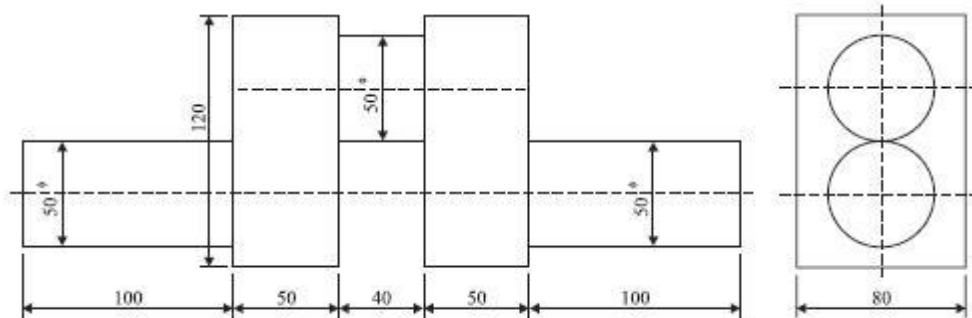

Fig. 5.9. Crank shaft.
- 9(i) Analyze the cost of forging a crank shaft as shown in Fig. 5.9. The forging is to be made out of a bar stock of 50 mm f and following data is available: (8)